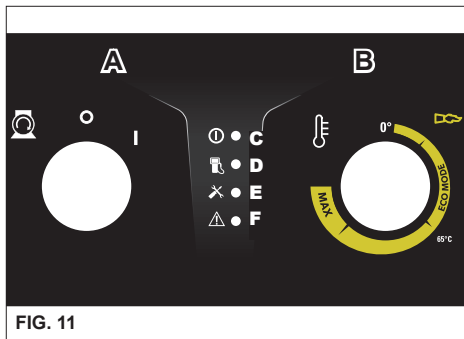

FIG. 11
N.B. To reset the indicators, rotate the main switch "A" to the "0" position and then to the "I" position (fig.11).
When you have finished using the “Hot Water or Steam Phase”, turn the thermostat knob “B” to position ‘0’ (fig.11), allow the appliance to cool down for approx. 3 minutes with the gun open.